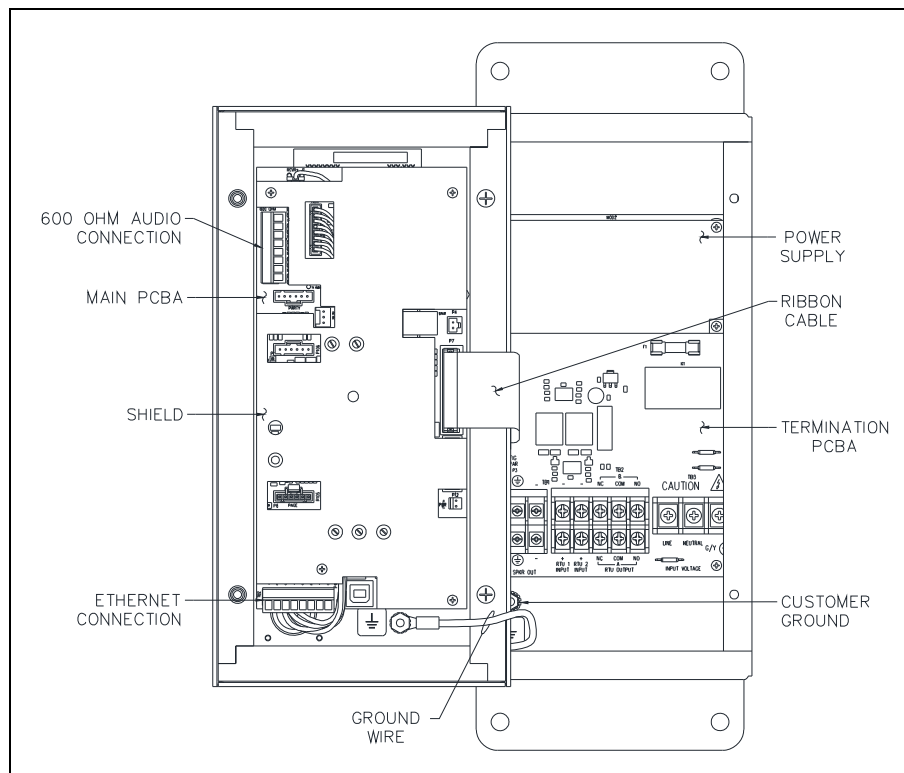

Figure 10. Class I Div. 2 SP2 Station—Interior View
3. Mount the front panel to the rear enclosure using two of the screws just removed (see Figure 10).